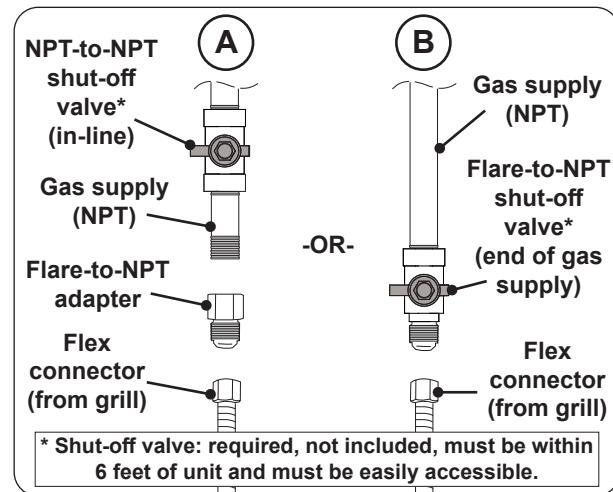

Fig. 31-1 Connecting to a gas line
- Install the supplied flare-to-NPT adapter to the gas supply (NPT) using a pipe joint compound resistant to all gasses (see Fig. 31-1, A). Tighten securely.
- Connect the flex connector to the adapter (see Fig. 31-1, A). Tighten securely.
- Connect the flex connector to the shut-off valve (flare) (see Fig. 31-1, B). Tighten securely.